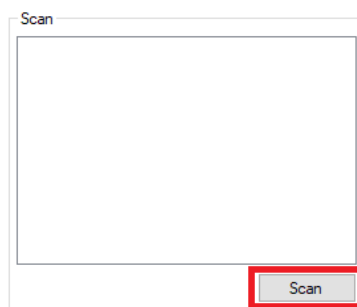

Figure 16. Station mode – Scan
2. Click the **Scan** button to scan Aps, see Figure 16.